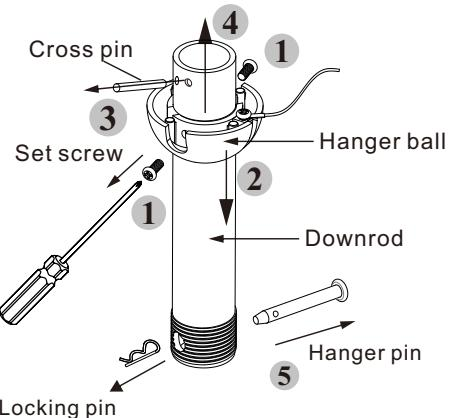

Figure 11
b. Remove the hanger pin, locking pin from the downrod assembly, and loosen the set screws from the the coupling (Fig. 11)